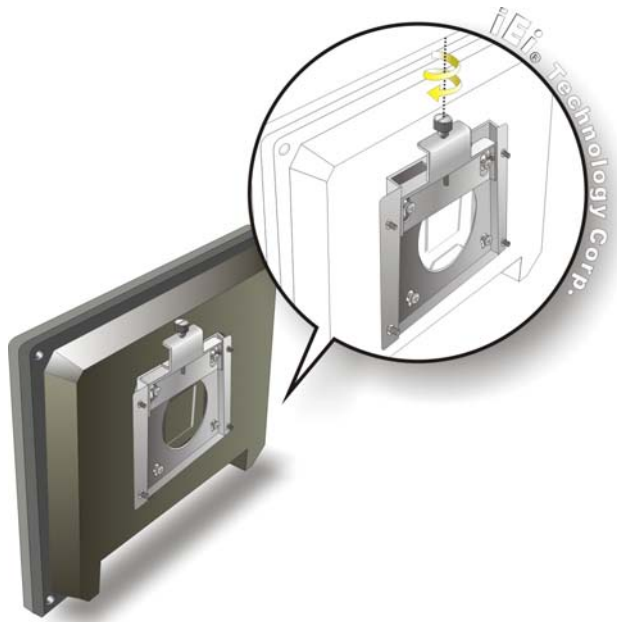

Figure 4-12: Secure the Panel PC
- Step 9:** Secure the panel PC by fastening the retention screw of the wall-mounting bracket. (**Figure 4-12**).